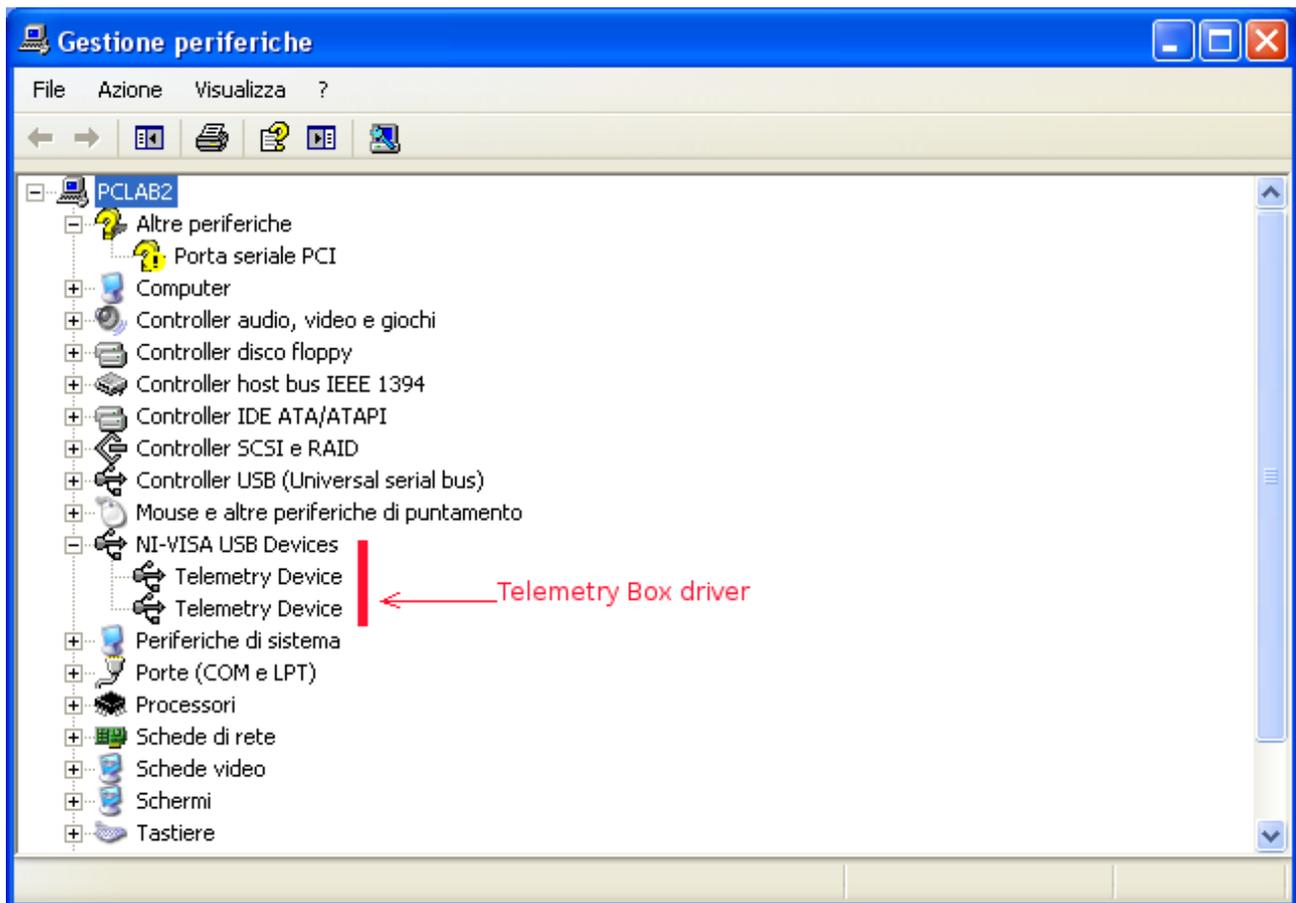

Figure 36: Telemetry box PC Interface driver installation's result check.
8. in order to verify that the installation has been successful, go into the "Device manager" of the PC and verify that, with the *Telemetry Box* connected to the PC, the devices shown in figure 36 appear.